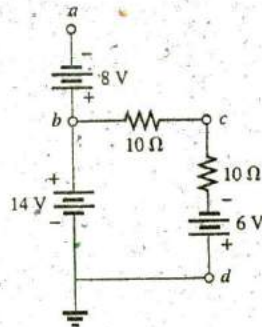

FIG. 5.123
40. For the network in Fig. 5.123, determine the voltages: